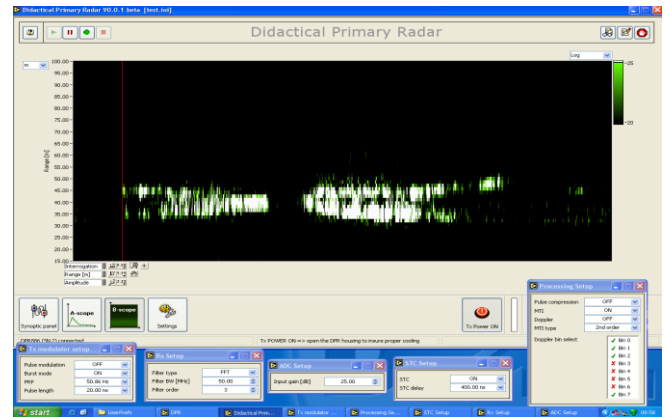

Figure 24: The radar immediately tracks the target movement.
- Target Plot creation and display, see Figure 24